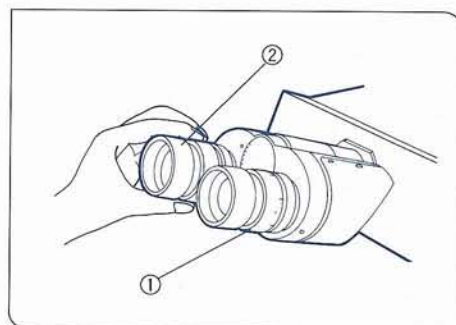

Fig. 38
(Figs. 38, 39)
1. Looking through the photo-format eyepiece ① with your right eye, turn the knurled top of the eyepiece ② until two distinct sets of reticles and a clearly defined double crossline can be seen in the field of view. (Fig. 38)